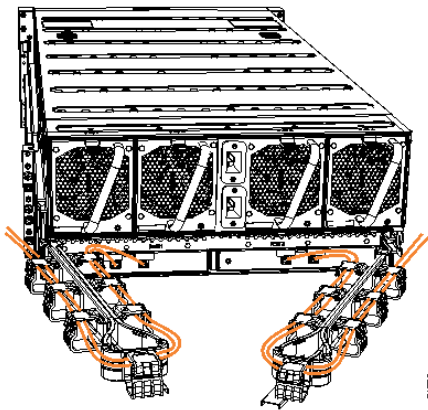

Figure 154. Example of SAS cables routed through the cable management arms
8. Route the SAS cables through the cable management arms, as shown in Figure 154 on page 202.